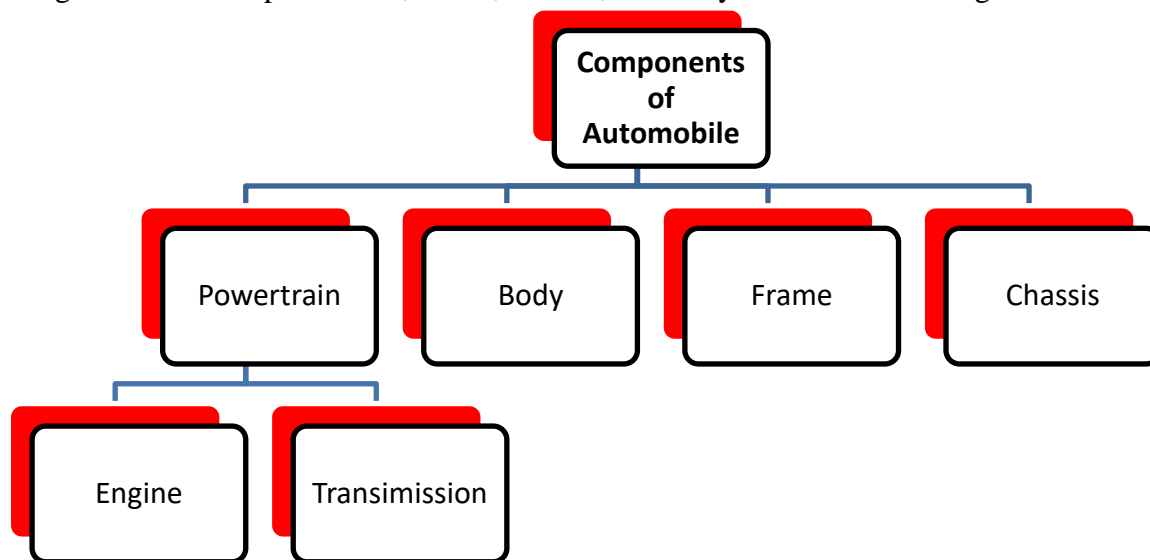

Figure 1: Classification of Components of Automobiles.
Vehicle components refer to the various parts and systems that make up a vehicle. They are designed and engineered to work together seamlessly to provide a safe, comfortable, and reliable driving experience for the vehicle's occupants. The components of a vehicle can be broadly categorized into the powertrain, frame, chassis, and body as shown in the Figure 1 below.
1. **Chassis:**The chassis includes the brakes, steering system, suspension, and other components that support the vehicle and provide it stability, handling, and comfort. The part of a car's construction that bears the weight of the vehicle is referred to as the "chassis". The types of chassis are illustrated in the Figure 1 given below.